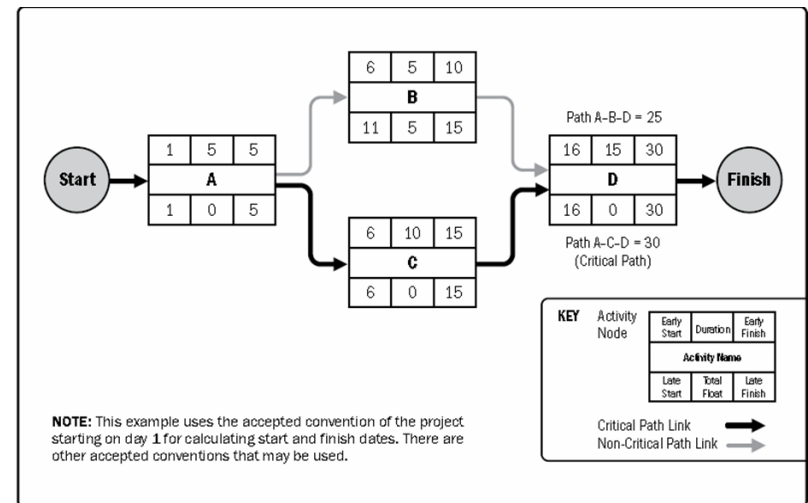

Figure 6-16. Example of Critical Path Method
- ▶ For example the free float for Activity B, in Figure 6-16, is 5 days.